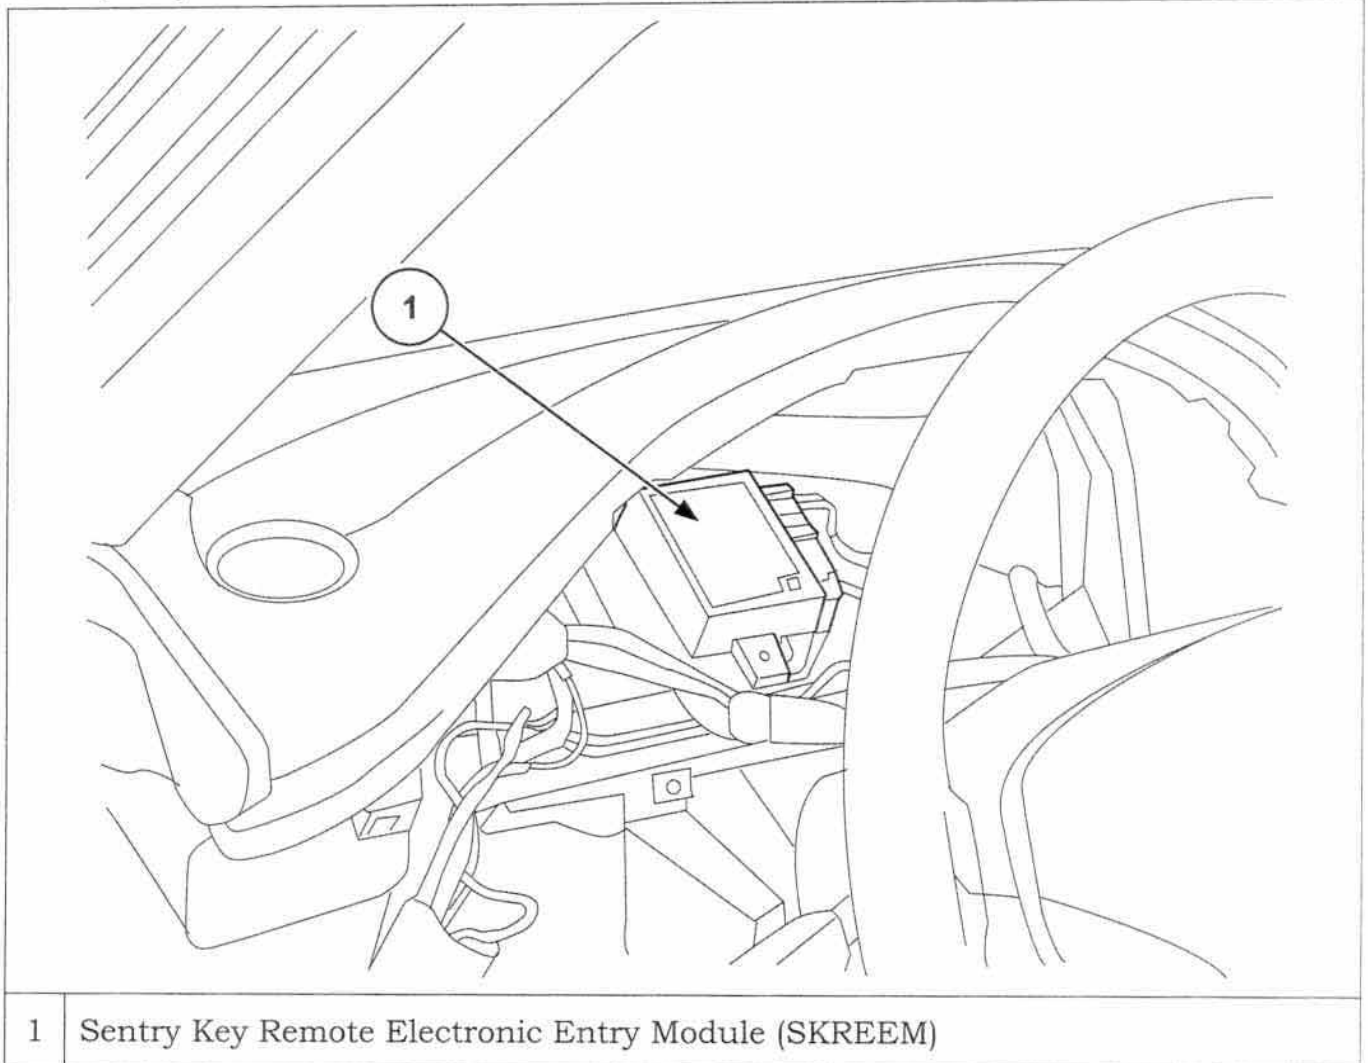

Figure 37 Sentry Key Remote Electronic Entry Module (SKREEM)
The SKREEM is located behind the IC (Fig. 37). The SKREEM houses the circuitry that controls the Sentry Key Immobilizer Module (SKIM) function and the RKE. When the operator presses the lock, unlock or panic button, the radio frequency (RF) is received by the SKREEM (for panic and for lock, unlock). The signal from SKREEM is sent to the BCM over the interior CAN B Bus.